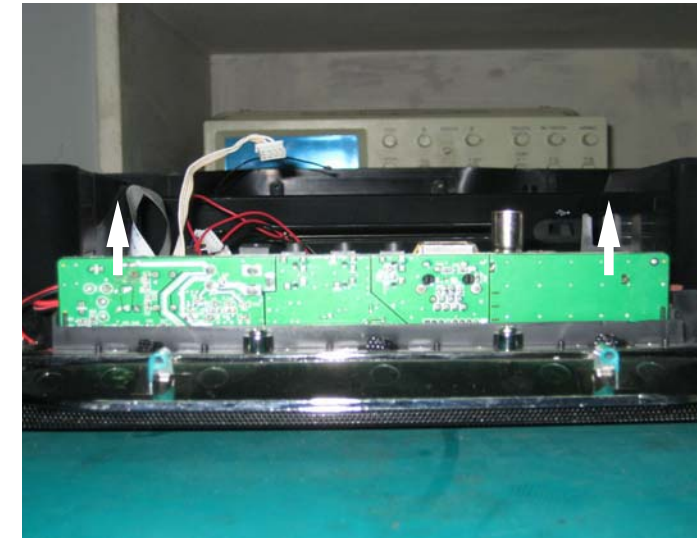

Figure 10
- 1) Pull out AMP Board upwards as shown in figure 10.